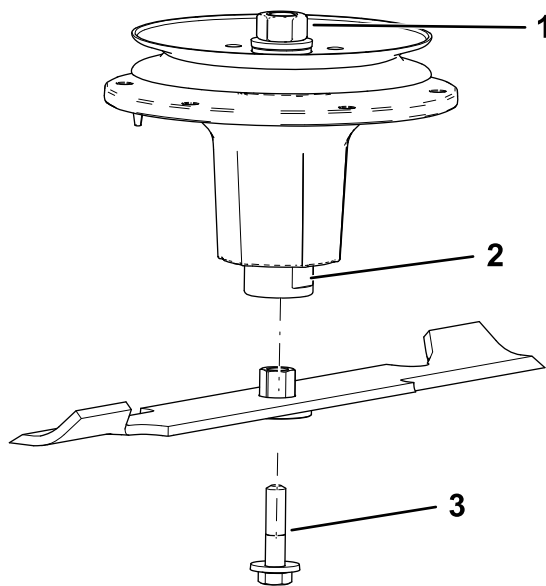

**Figure 80**
2. Install the bushing/blade assembly into the spindle shaft (Figure 80).